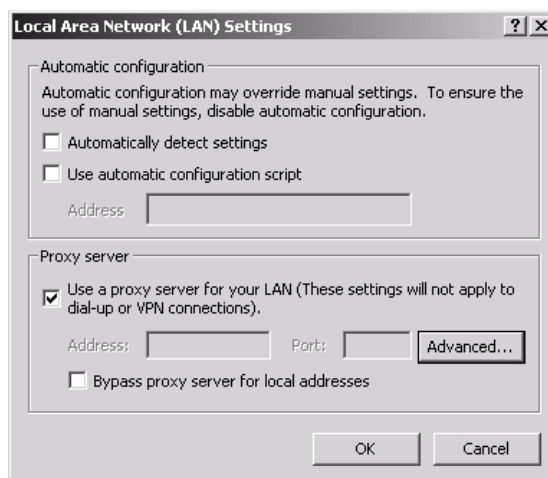

Figure 75: Accessing LAN settings - IE
4. Deselect the Use a proxy server for the LAN check box as shown in Figure 75.